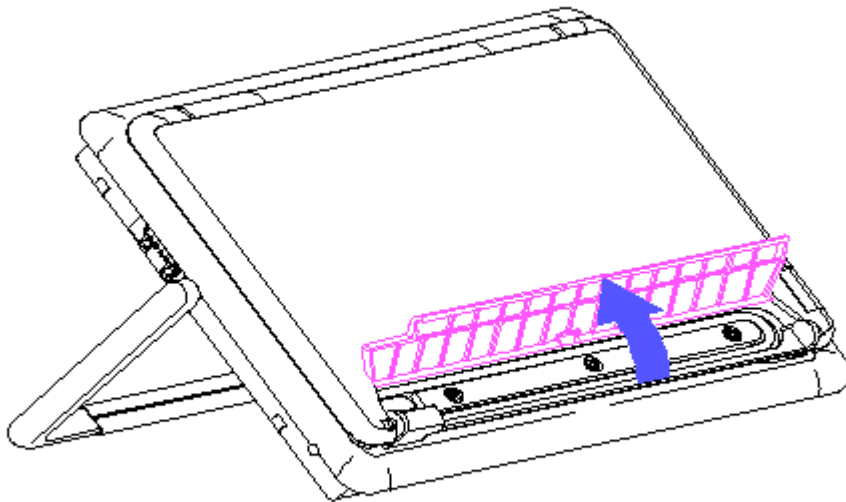

Figure 3-3. Opening the Keyboard Foot
- a. Open the keyboard foot by pulling it up from the bottom (Figure 3-3).